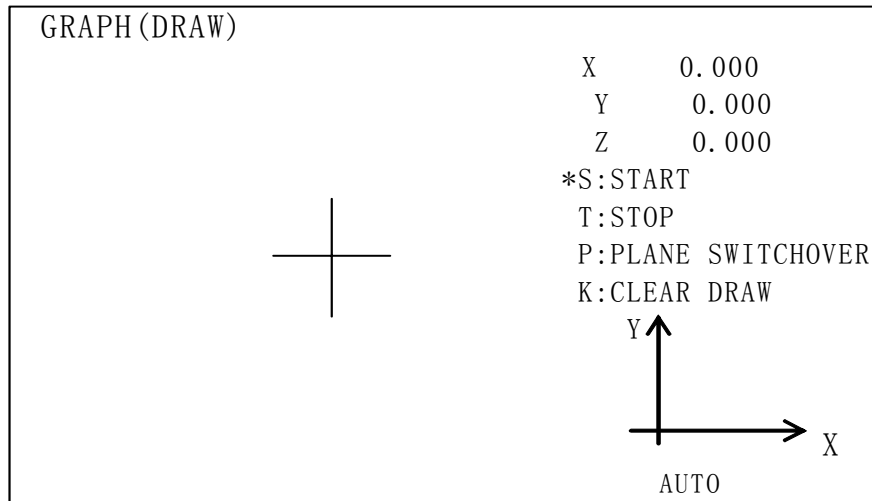

Fig. 3-6-2
2) Graphic page is shown as Fig.3-6-2 :